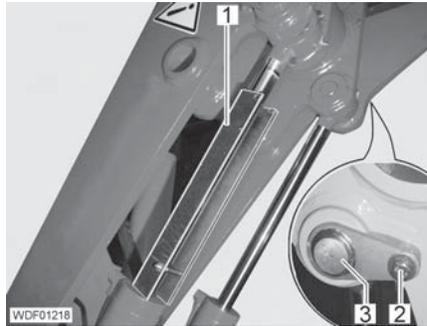

Fig. 193 Securing the lift frame
- Raise the lifting cylinder, and to prevent accidental lowering, secure it at the side (Fig. 193,1) on which the lifting cylinder **is not** being replaced.
- Unscrew the screw (Fig. 193,2).
- Hold onto the lifting cylinder and knock out the pins (Fig. 193,3).
- Drive in the pin (Fig. 193,3).
- Screw in and tighten the screw (Fig. 193,2) with the washer.